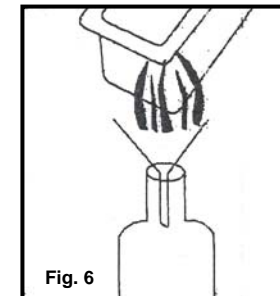

Fig. 6
- To filter the oil, first make sure the oil has cooled and then empty the oil from the oil container into another container or bottle. (Fig. 6)